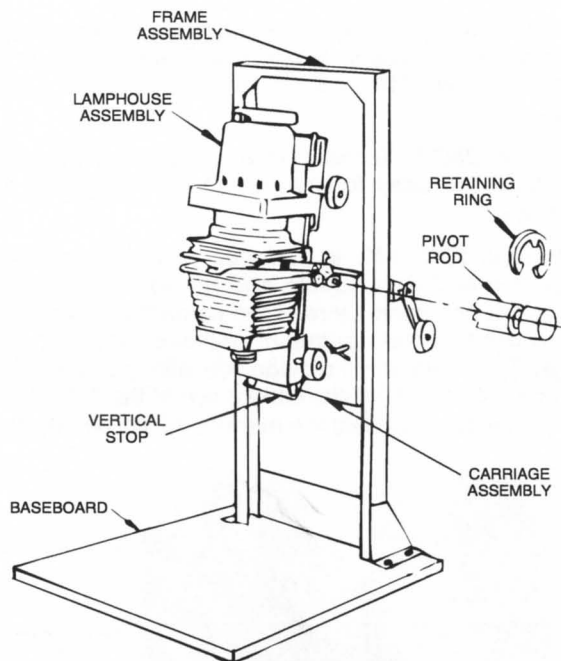

Figure 5
- G. Refer to Fig. 5 for Lamphouse attachment instructions. Remove the Pivot Rod from the yoke in the carriage. With a screwdriver, gently pry from the rod one of the Retaining Rings, and then slide the rod from the yoke. Hold the Lamphouse Assembly against the Carriage Assembly so that the flanges on the back of the Lamphouse Assembly match the holes in the yoke on the carriage. Reinsert Pivot Rod and replace Retaining Ring.
A. Inserting the Negative (Fig. 5)